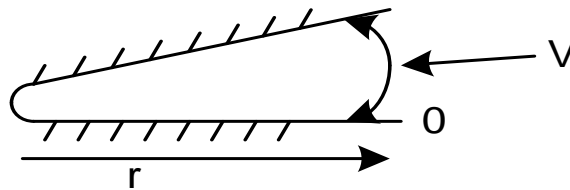

Figure Q3[c]
- [c] An inviscid, incompressible fluid flows between wedge-shaped walls into small opening as shown in Figure Q3[c]. The potential velocity (in m^2/s), which approximately describes this flow is